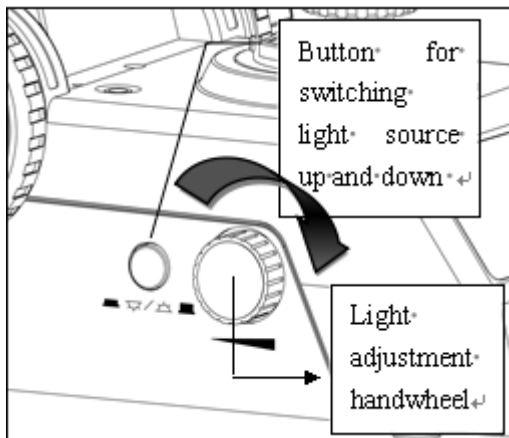

Fig 2
3.2 Adjust Lighting And Switch Light Source (fig 2)
1. Rotating the handwheel according to the direction indicated by an arrow on the figure 2, the brightness will increase. If not, brightness will reduce.
2. As shown in figure 2, when the light switch button is push-in, the light on the top is opening, as picture . When the light switch button is push-out, the light on the bottom is opening, as picture .